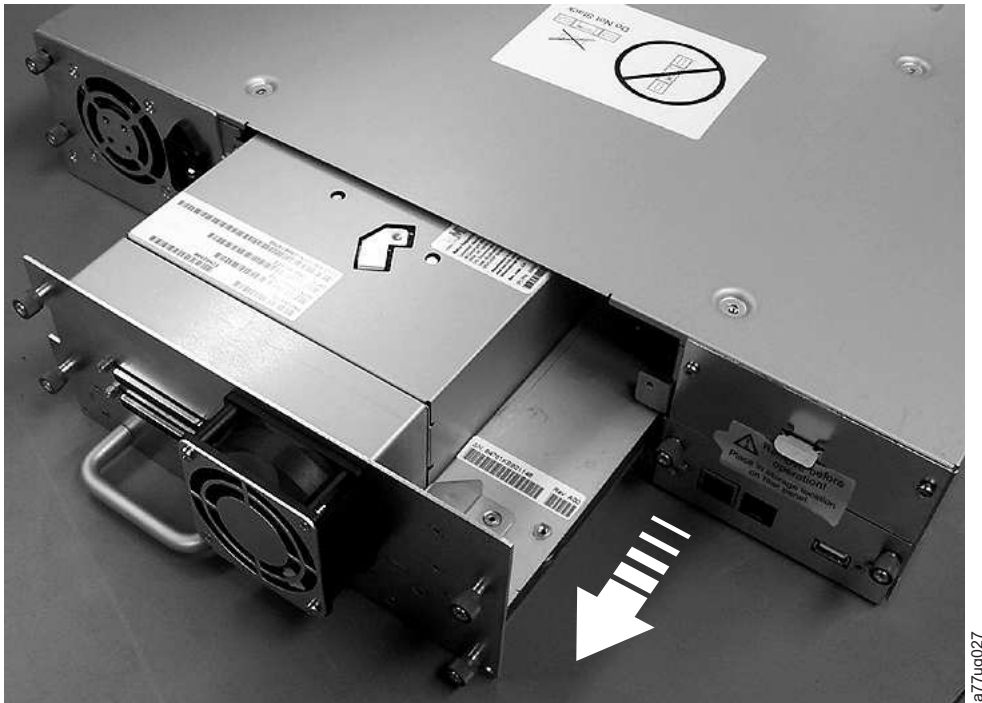

Figure 163. Pulling the drive sled out of the library (drive sled without ESD springs shown)
7. Pull straight back on the drive sled handle (**10**) to remove it from the library (see Figure 163 on page 224).